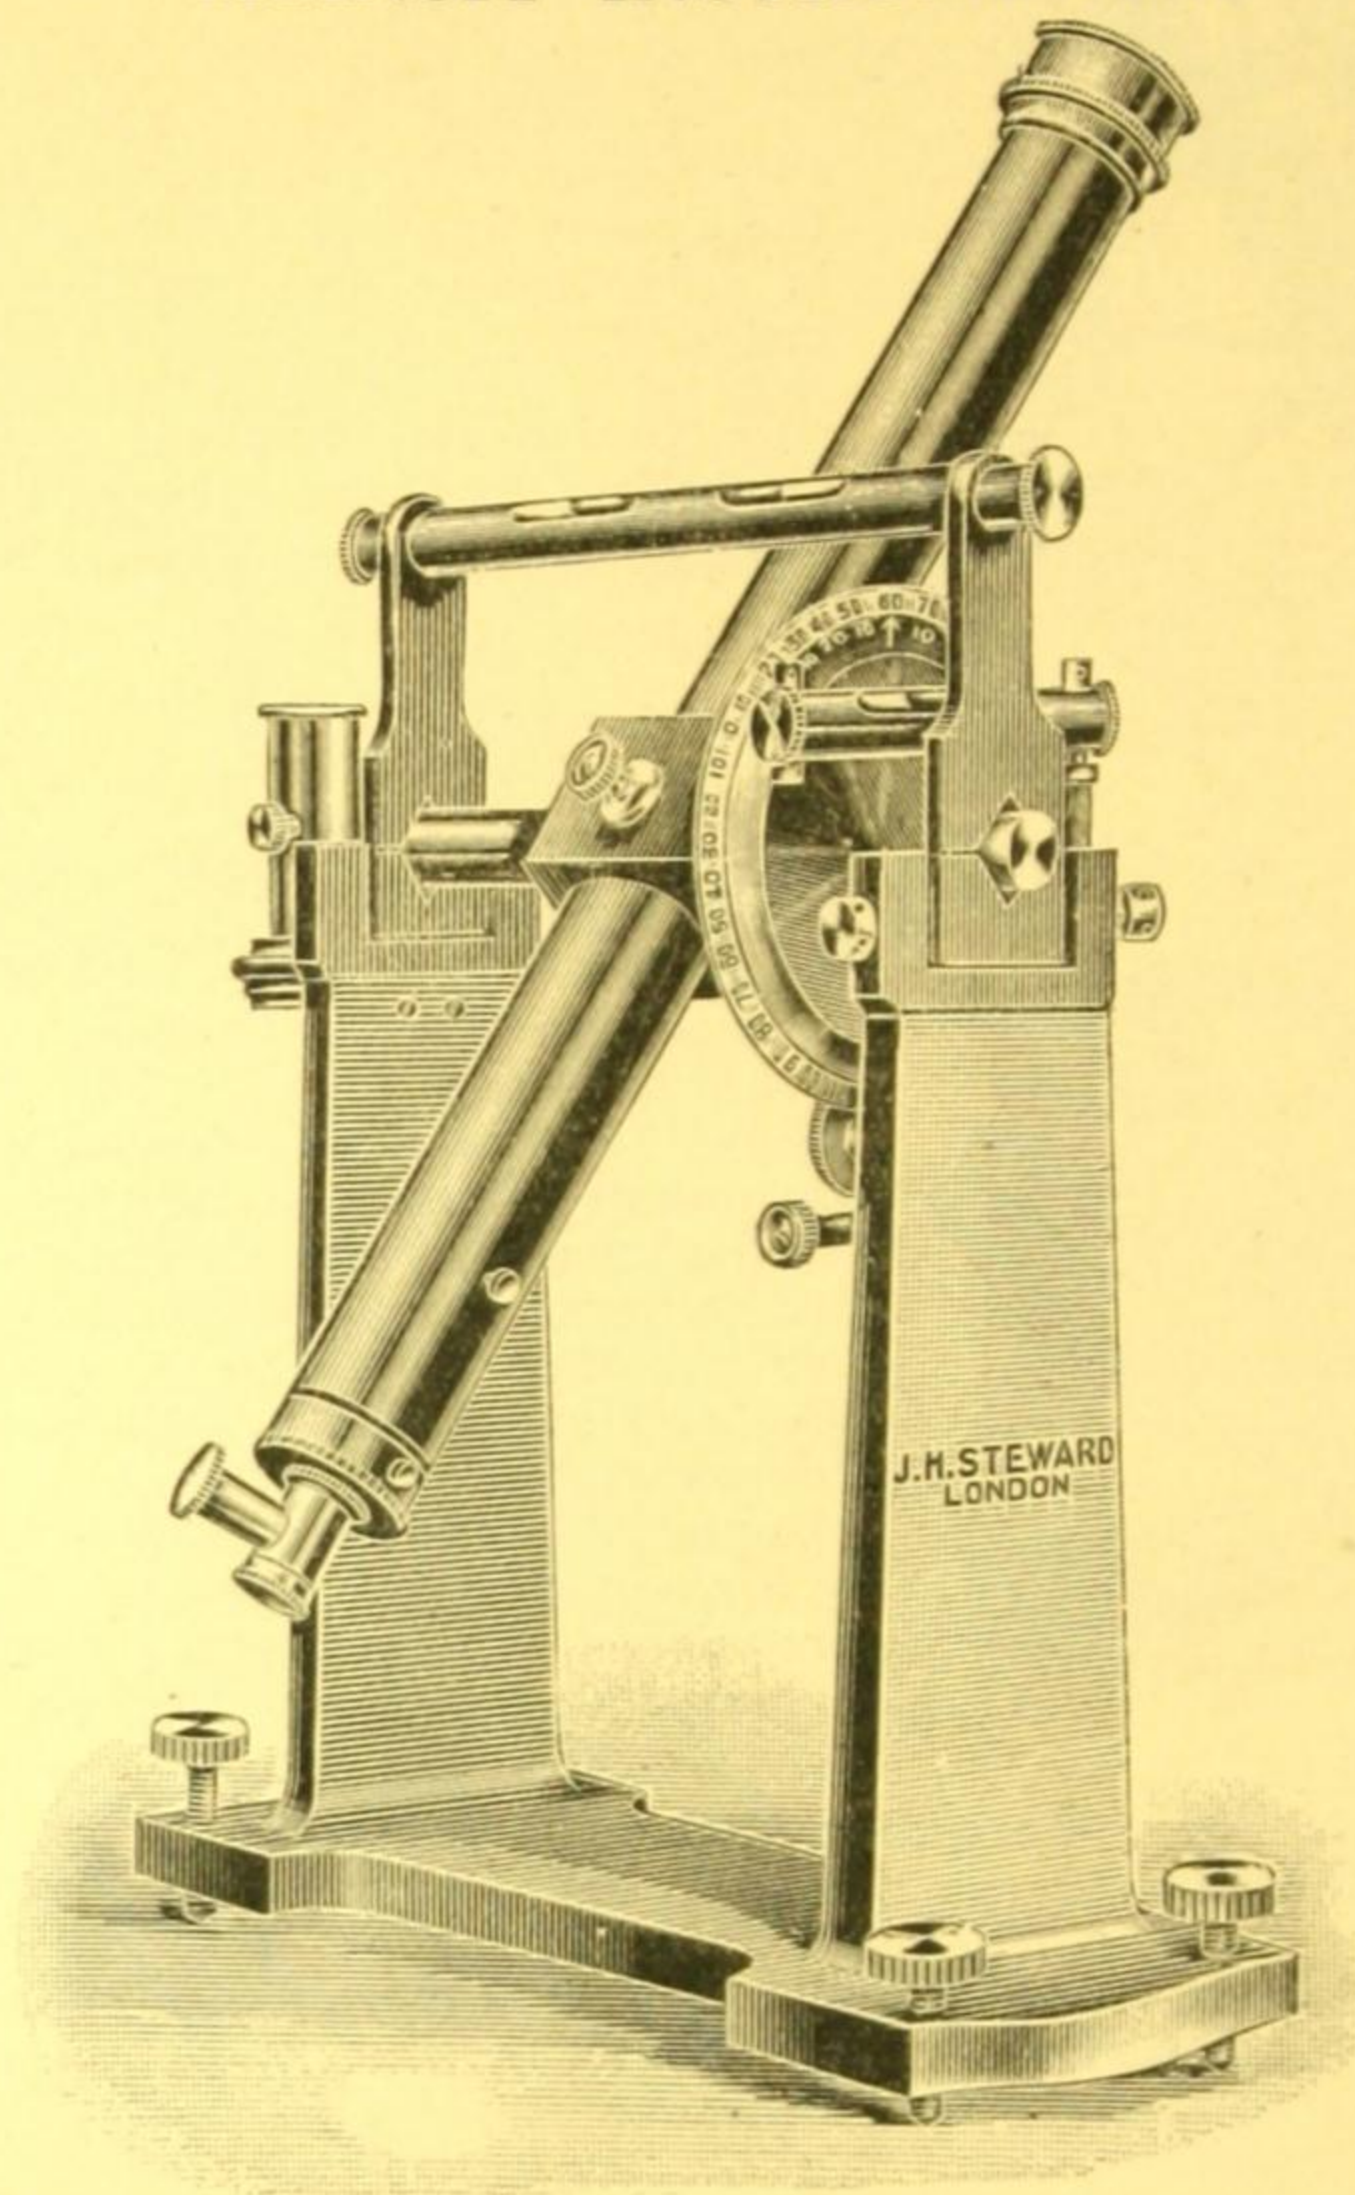

Fig. 128. The "Portable" Transit.
**The "Portable" Transit**, for obtaining correct local time and for determining the true right ascension of a star by observation of its passage across the celestial meridian. Reversible telescope, brass with bronze finish. Diagonal transit eye-piece with 1 horizontal and 5 equi-distant vertical lines. Altitude Circle, 5 inches in diameter, divided on brass and reading by vernier to 1 minute. Spirit level on vernier arm with antagonising screw adjustment, and graduated striding spirit-level to cross axis. Pierced axis with reflector and lamp for illuminating the wires at night time. Solid cast iron stand with meridional adjusting screws at base, and azimuthal adjustment to upright. Polished pine case to contain telescope, levels and apparatus..... Fig. 128.